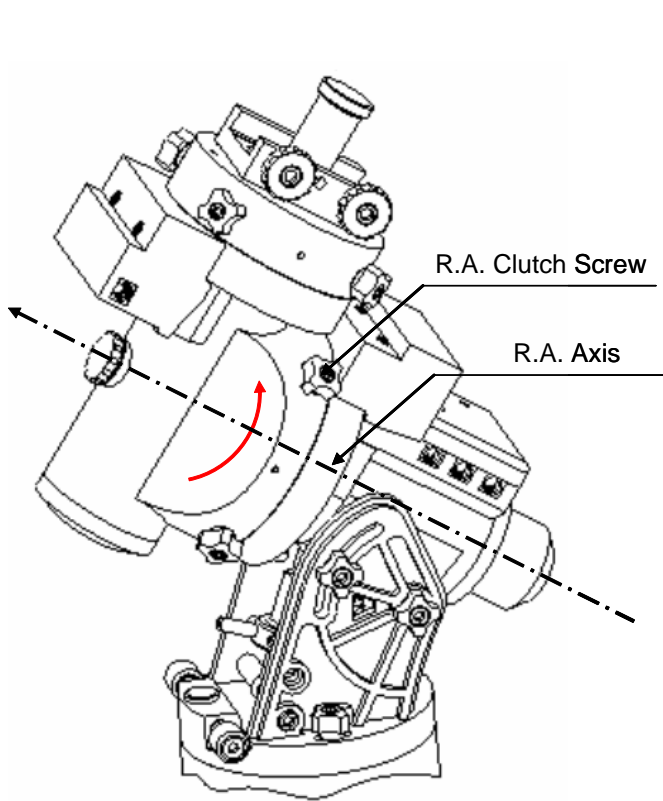
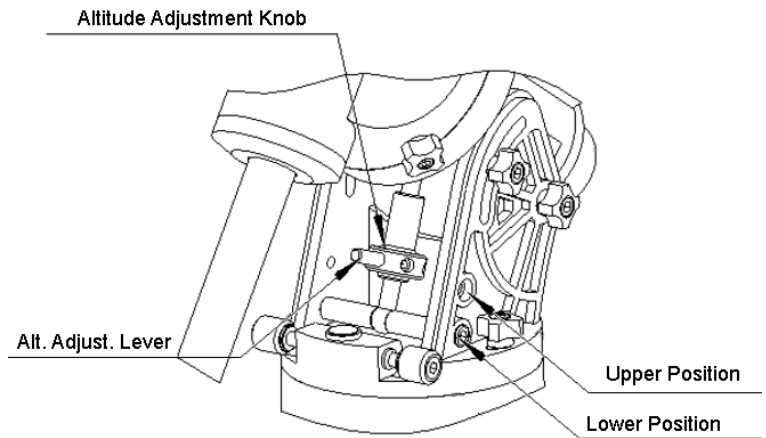
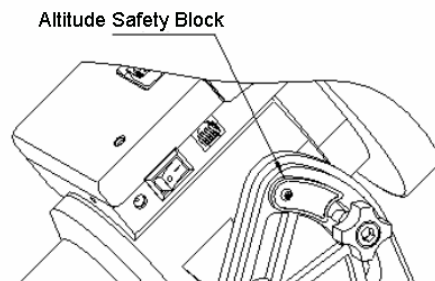

Figure 4
Figure 5
Figure 6
3. **Set the altitude:** Unlock four R.A. Clutch Screws and rotate the mount 180° around the R.A. axis (Figure 4) to move the dovetail face upside. Tighten the R.A. Clutch Screws. Un-screw the Altitude Adjustment Lever from Altitude Adjustment Knob (Figure 5). Turn the Altitude Adjustment Knob to set your current altitude, which is displayed in Altitude Mark Window. Using the Lever for a fine adjustment if needed. Always adjust the altitude without the load.
If your altitude is between 5° to 40°, set the Altitude Adjustment Knob to the lower position (factory default position, Figure 5). An Altitude Safety Block has to be installed (Figure 6. A hex key to release and secure the screw is included).